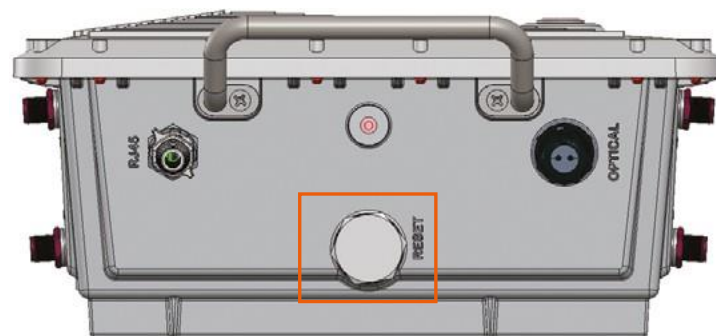

Figure 12: M32 end cap
- a. Remove the M32 end cap shown in Figure 12.